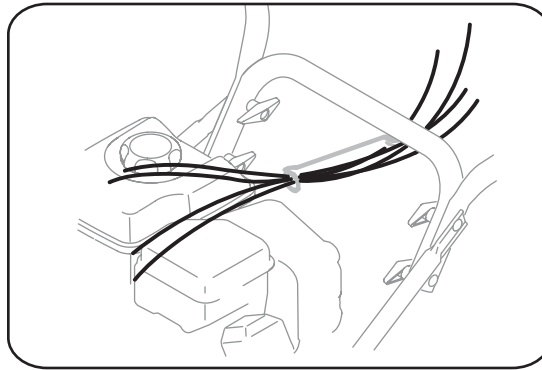

Figure 3-7
- Check that all cables are properly routed through the cable guide on the right side of the chute crank rod. See Figure 3-7.